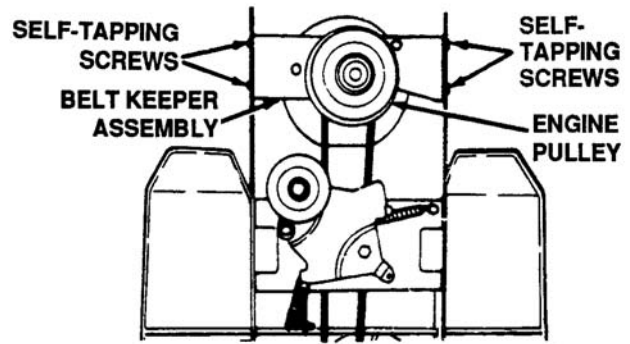

Figure 4-55. Belt Keeper Assembly
- d. Remove the four self-tapping screws which hold the belt keeper assembly to the frame at the engine pulley. Push the belt keeper assembly forward, out of the way. See Figure 4-55.